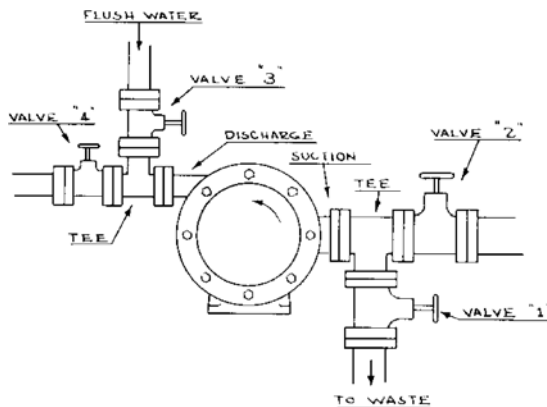

Figure 14: Pump flushing
- On units handling corrosives, the piping can be arranged so that corrosives can be flushed from pump prior to opening unit for service. See Figure 14: Pump flushing on page 17. During operation, valves 1 and 3 would be closed, 2 and 4 open. Prior to dismantling, close valves 2 and 4, open 1 and 3. Introducing water at valve 3 will allow water to flush pump and drain at valve 1.